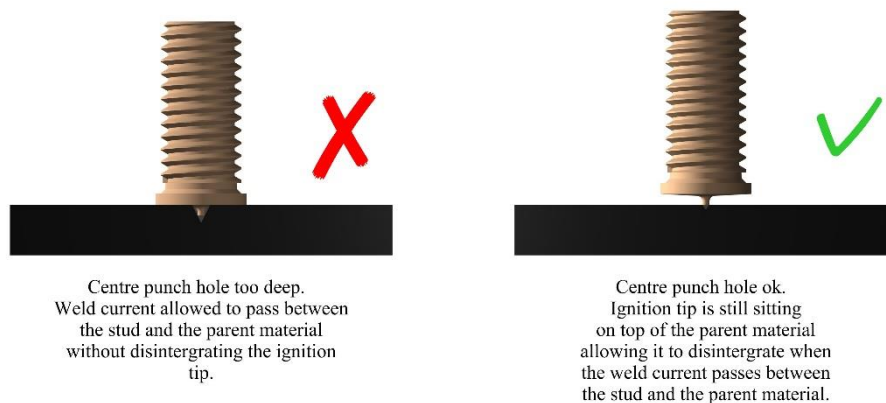

Figure 23.
- Centre punching is not recommended for stud positioning as the ignition tip can be buried in the centre punch hole and cause the weld to fail. If centre punching cannot be avoided then it is important that the hole is not so deep that the ignition tip can sit inside it. See figure 23.